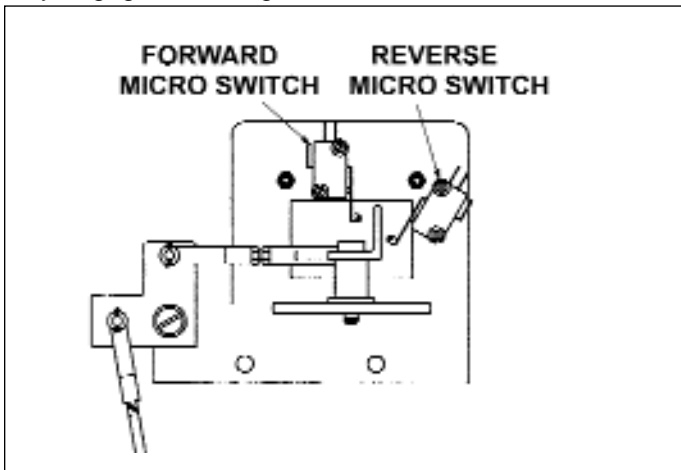

Figure 1 - Starting System Lockout
Console shift assembly is a side to side shift lever with an “over-center” system to ensure full transaxle gear engagement. For safety, a starting system lockout is used to prevent the vehicle from starting if transmission is not fully engaged. See Figure 1.
3. Disconnect wire harness from starting system lockout micro switches. See Figure 1.